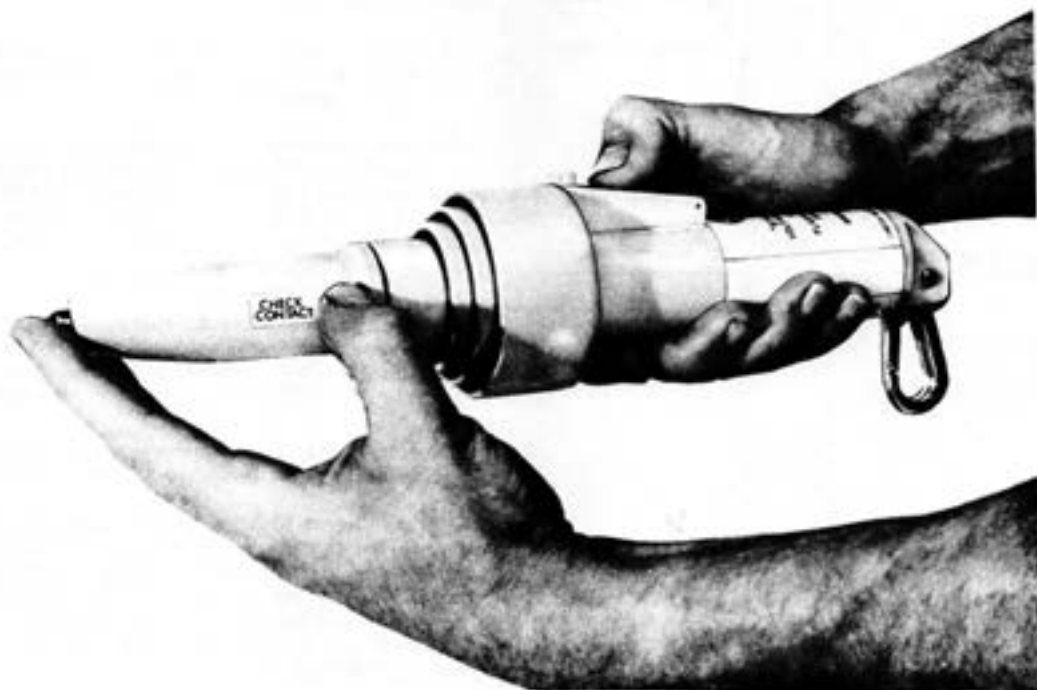

Fig. 8—Checking Test Set Before Use
- (c) With the switch depressed, touch both the probe tip and the "check contact" using the free hand (Fig. 8). Remove the free hand; the red LED should flash. If it does not, **do not use**.